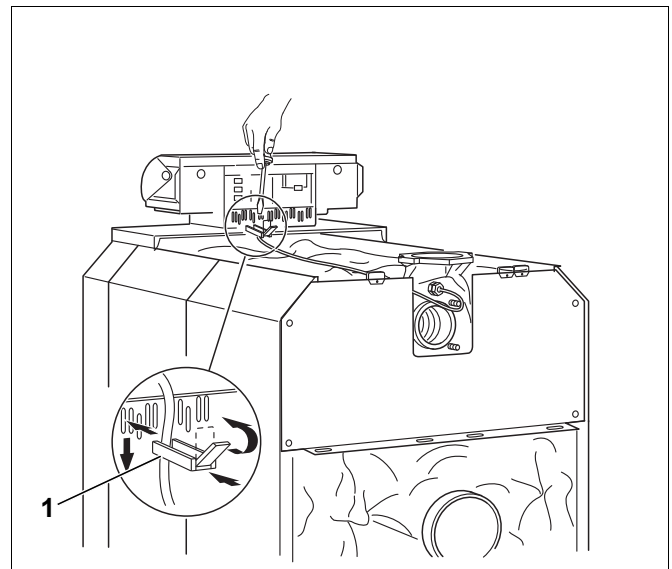

Fig. 64 Secure all electrical cables
- Insert cable clips with fitted cables into the clip frame and secure by pivoting the lever (Fig. 64, **[1]**).